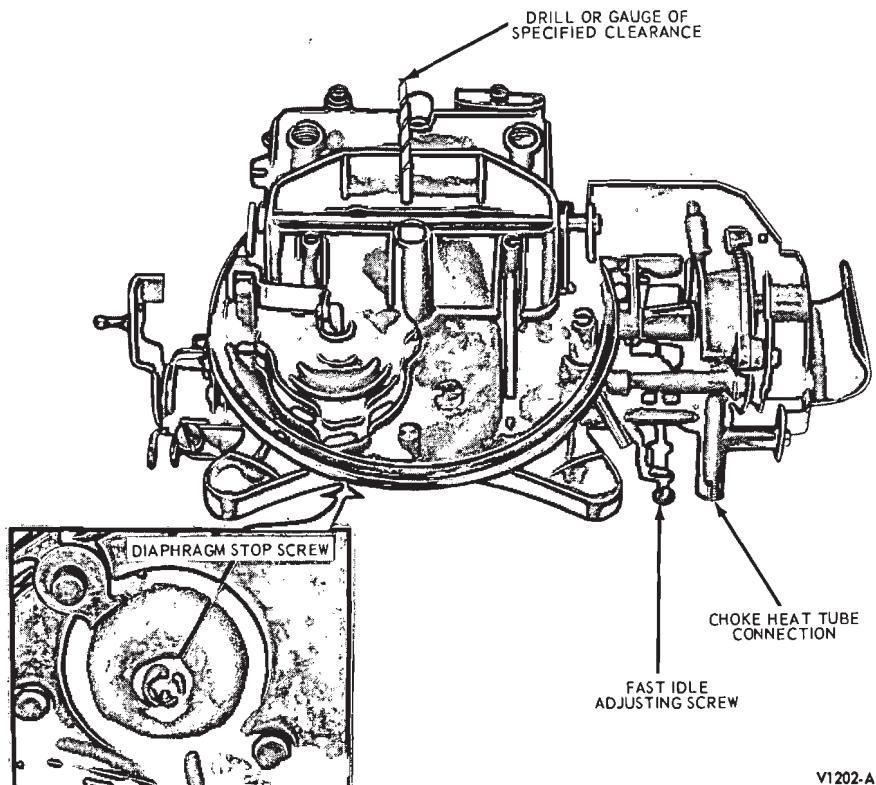

FIG. 5—Choke Plate Pulldown Clearance —Autolite Model 2100-D 2-V Carburetor
5. Start the engine, then check for the specified clearance between the lower edge of the choke plate and the air horn wall (Fig. 5).